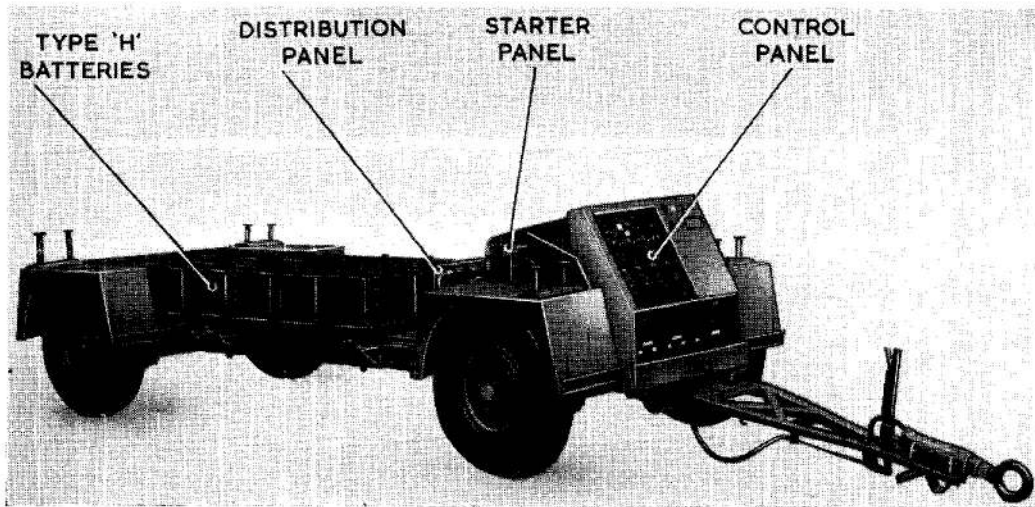

Fig. 2. Trolley with covers removed
6. The 24V, 40A.H. Type H lead acid batteries, which provide power for engine starting may be seen in fig. 2. Connections to the distribution panel and charging points are shown in figs. 3 and 4.
Distribution panel (*fig. 2 and 3*)